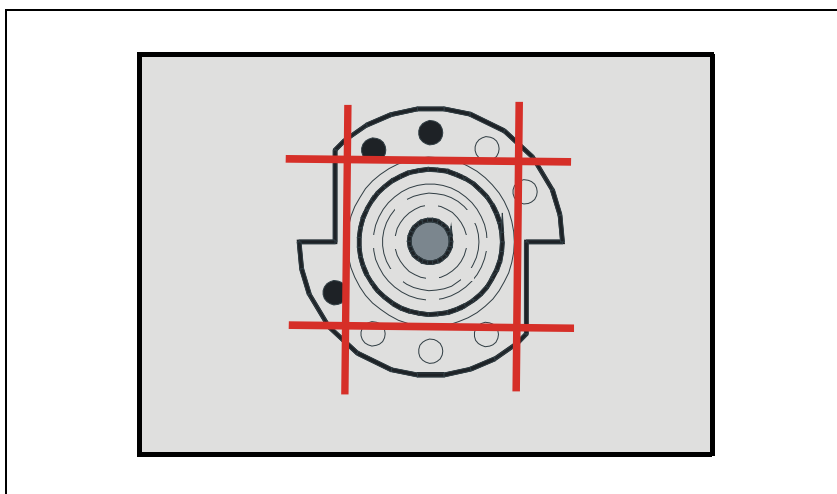

Figure 5-10. Align the tool inside the square
2. Align the tool's X position inside the square using the joystick, see Figure 5-10.